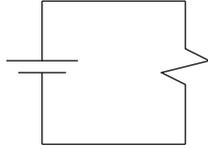

Figure 5: Simple circuit. Indicate which side of the resistor had a higher electric potential and which side of the DC supply had a higher electric potential.
Measure the voltage across the resistor in the circuit from the previous section. Record the measured value below. On the circuit diagram in Figure 5, indicate which side of the resistor had a higher electric potential by writing “high” on that side. Write “low” by the side of the resistor that had a lower electric potential.
2. Measure the voltage across the DC supply in the circuit. Record the measured value below. On the circuit diagram in Figure 5, indicate which side of the DC supply had a higher electric potential by writing “high” on that side. Write “low” by the side of the DC supply that had a lower electric potential.